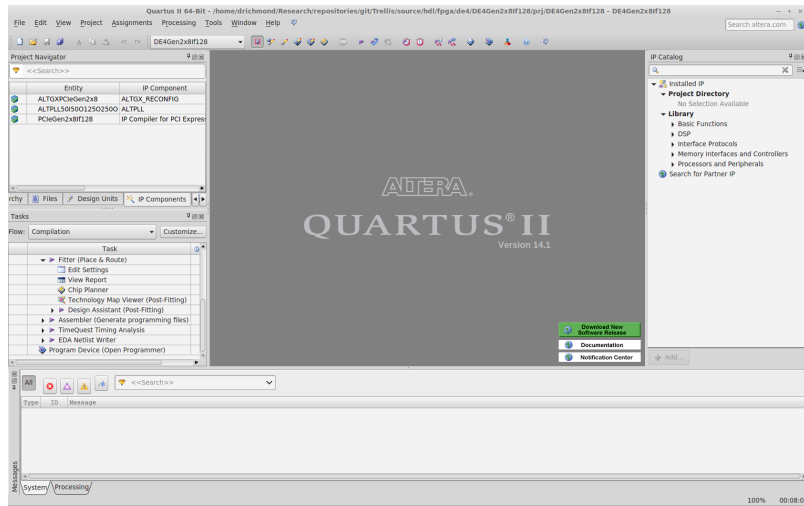

Figure 5.2: Project Splash Screen for Quartus Projects
3. In the RIFFA 2.2.0 distribution, open *RIFFA 2.2.0/source/fpga/de4/* and choose from one of the existing example design directories for your board. In the example design directory, locate the *prj* folder and open it. Select the .qpf file and click open. This will open the example project, as shown in Figure 5.2.
- To recompile the example design, click the compile button in the top left corner as shown in Figure 5.2.